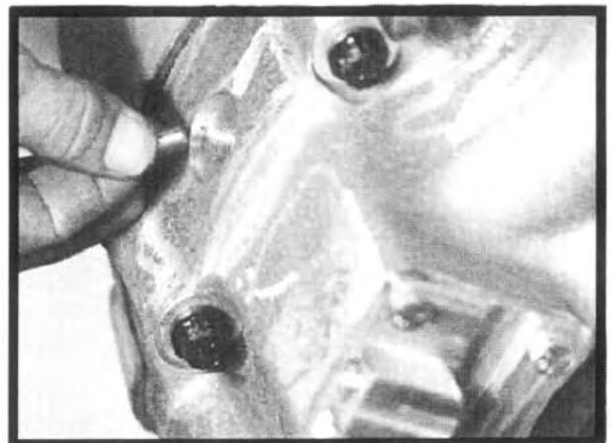

Figure 6.48
31. Insert the front drive indicator switch actuating pin into place. The rounded end of the pin must face inward. See Figure 6.48. Install the switch using a new copper washer and torque to specification.